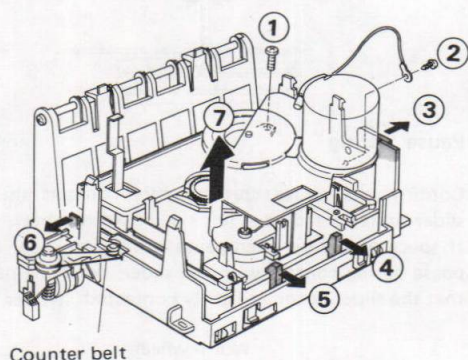

Fig. 7
- 2) Remove 2 screws, (1) and (2). By pulling part of the mechanical holder (3) and 3 clips (4, 5, 6) in directions shown by arrows, the mechanical unit can be removed in arrow (7) direction. (Refer to Fig. 7).